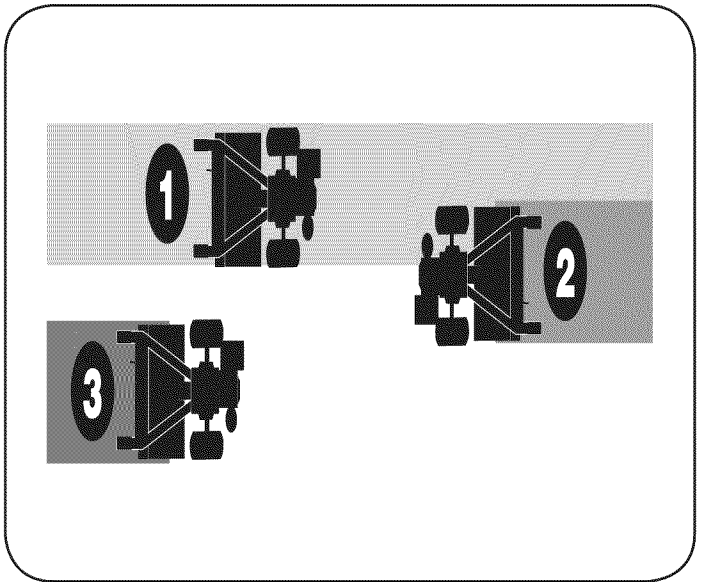

Figure 18
- If the garden size will not permit lengthwise and then crosswise tilling, then overlap the first passes by one-half a tiller width, followed by successive passes at one-quarter width. See Figure 18.